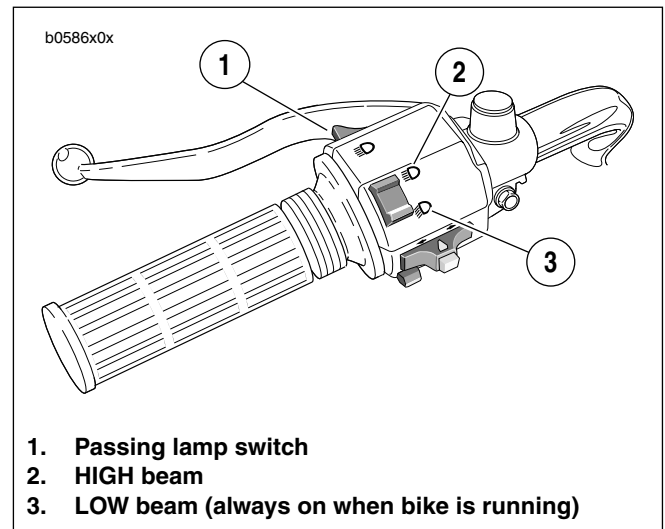

Figure 7-47. Headlight Controls
- b. See Figure 7-47. Check headlight LOW (3) and HIGH beam (2) settings.
- c. Set headlight to LOW beam. Press passing lamp switch (1). Headlight should flash HIGH beam for as long as the switch is pressed.